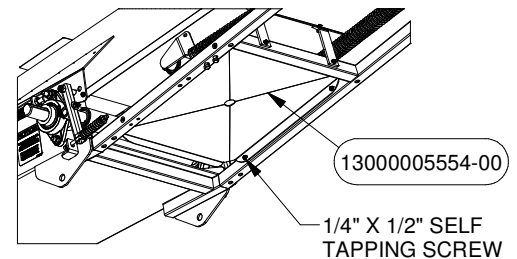

FIGURE 10.1
22. Attach the Bottom Guard PN# 5554 to the Intake using Self Tapping Screws that can be found in Bolt Bag PN# 5830 (See Figure 10.1).